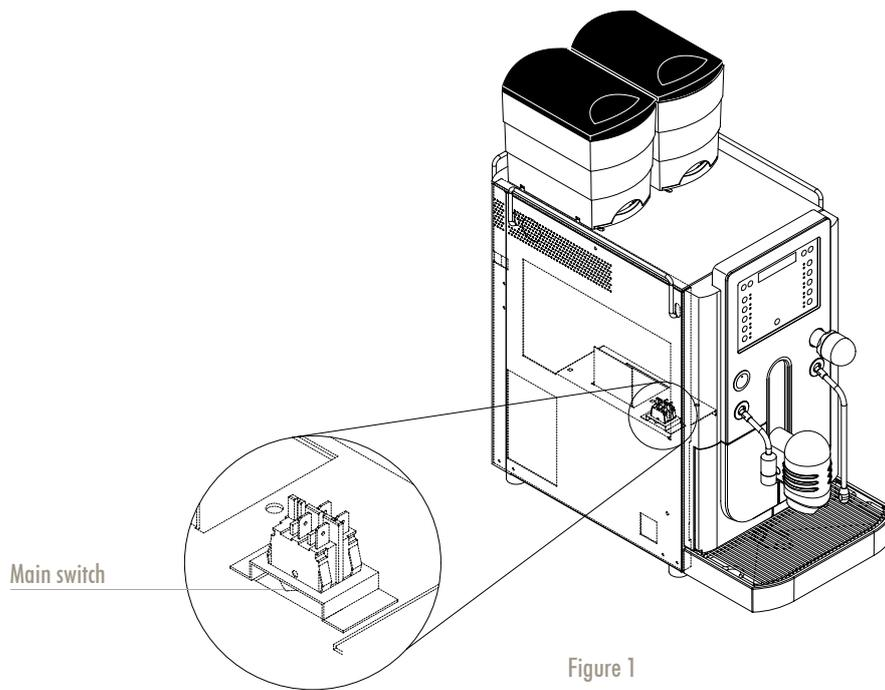

Figure 1
1. Plug the machine in to the mains. To do this, the coffee grounds drawer must first be removed (Fig. 1).